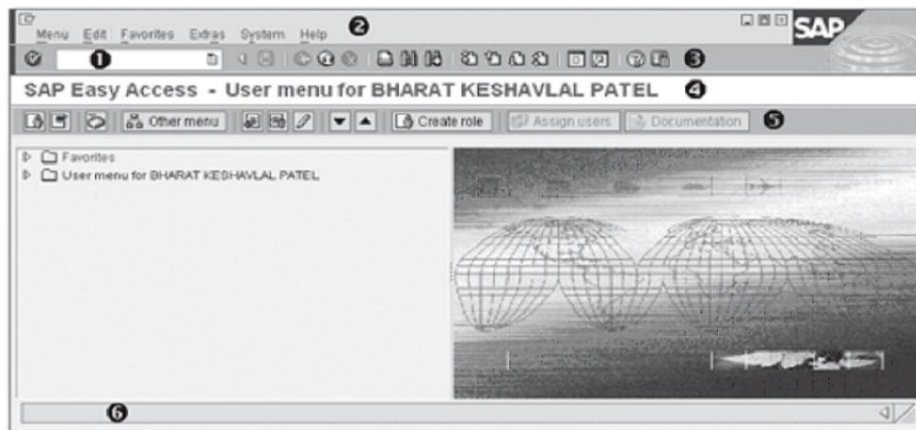

Figure 2.8 SAP Easy Access Screen
4. Enter the values for the Client field (❶ of Figure 2.7), your user ID and password (❷), and language (❸). All of these values are required and should be available from the administrator of your SAP NetWeaver BW system. Press ENTER, or click on the Continue icon (❹) to log on. A successful logon brings you to Figure 2.8.
You can start applications directly by entering the specific transaction code in the command field (❶ of Figure 2.8). Type the code, and press ENTER.
Different menu functions are available in the menu bar of the SAP screen (❷ of Figure 2.8). The menus shown can change depending on the application you're using. These menus may also contain cascading menus.